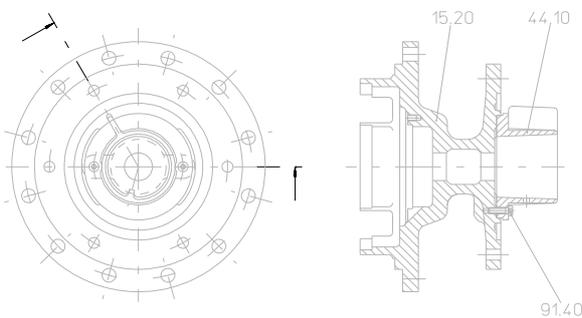

Fig. 10
6. Secure housing for mechanical seal 44.10 on to intermediate stage 15.20. Position outer rib as indicated in fig.10.